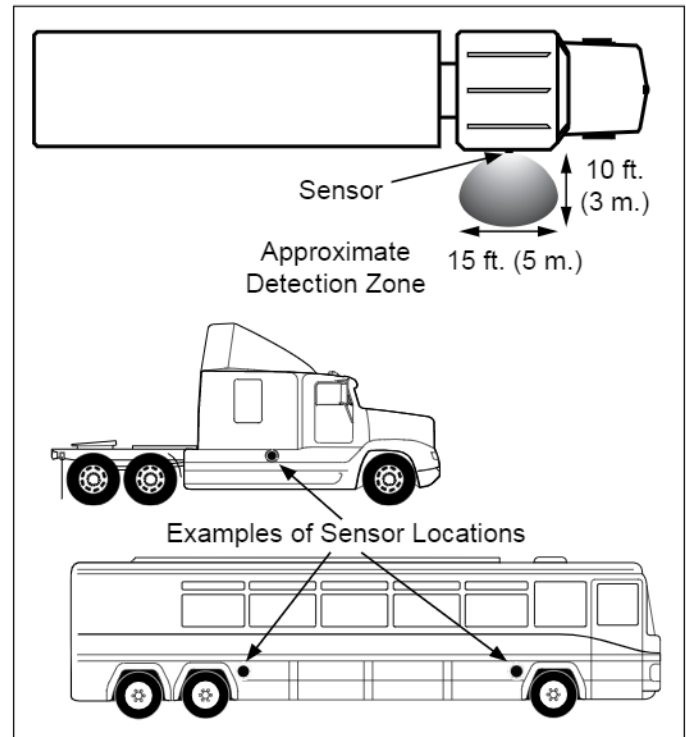

FIGURE 2 - BENDIX™ BLINDSPOTTER® RADAR SENSOR DETECTION ZONE AND EXAMPLE LOCATIONS
Used in conjunction with rear view mirrors and other instrumentation to maintain safe operation of the vehicle, the radar sensor(s) provide an approximate ten foot by fifteen foot detection zone. See Figure 2.
See Figure 2. The effective range is approximately ten (10) feet out from the vehicle and the detection zone extends seven and a half feet forward and backward from the sensor.